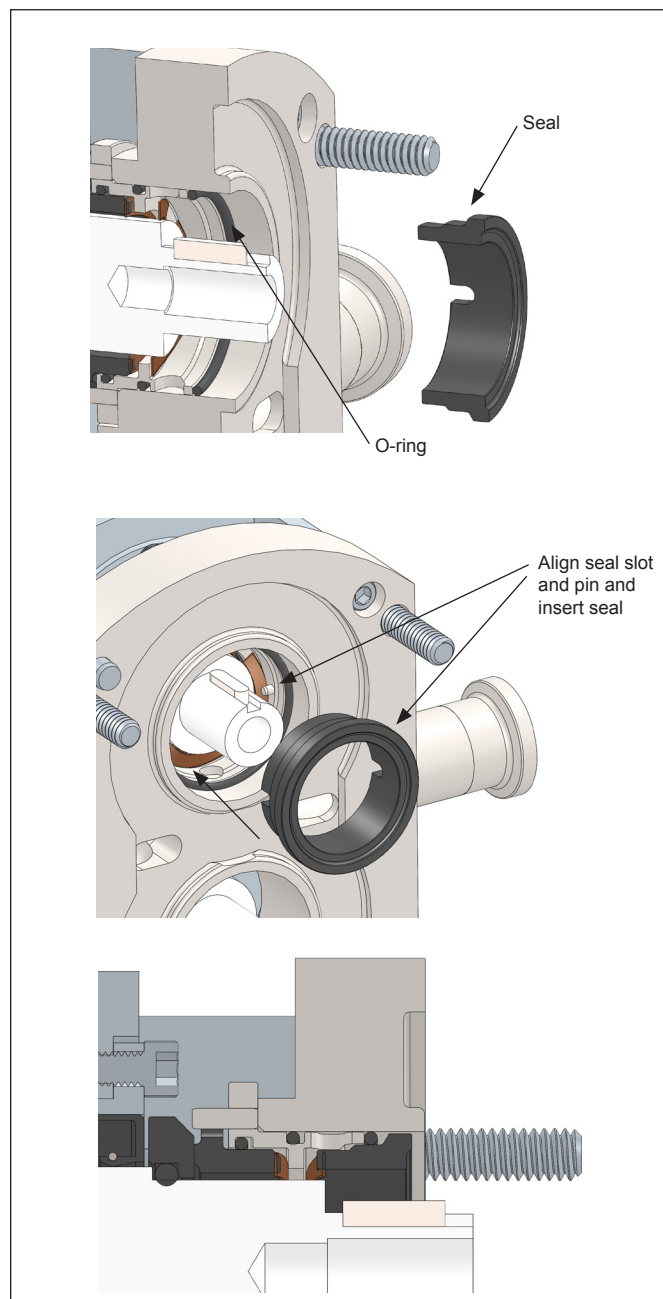

Figure 28. Stationary Seal Assembly
2. Slide the stationary seal o-ring into the body hub until it seats against the top of the sleeve (previously installed). Align the slots on the stationary seal with the pins inside the hub. Press the stationary seal into the hub until it seats on the spring; there should be noticeable spring resistance when pushing on the seal (*Figure 28*).